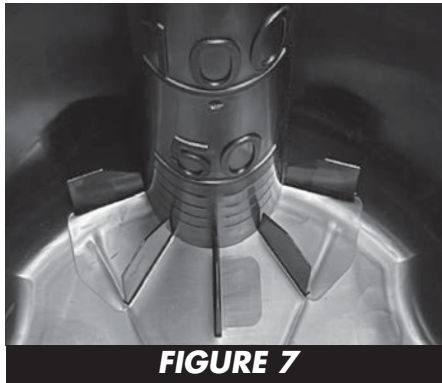

FIGURE 7
c. **BRINE WELL** — Ensure the brine well is properly secured on the bottom of the tank (**Fig. 7**).